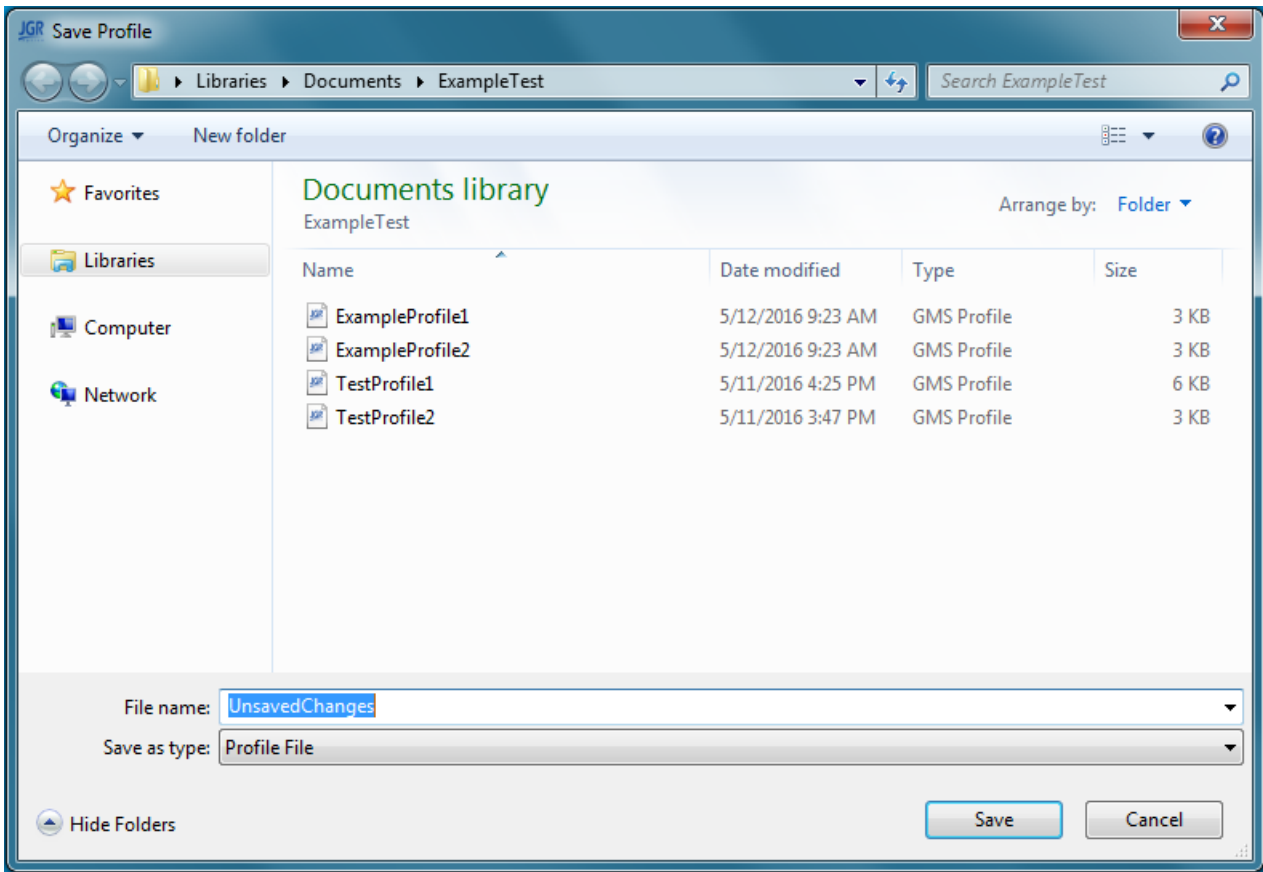

Figure 5.2: Save dialog for a test profile.
- Choosing to save the changes will bring up a "Save as" dialog (see Fig. 5.2) if the profile has not been previously saved and named. Choosing to "Cancel" will abort the new profile and will keep the existing profile open.